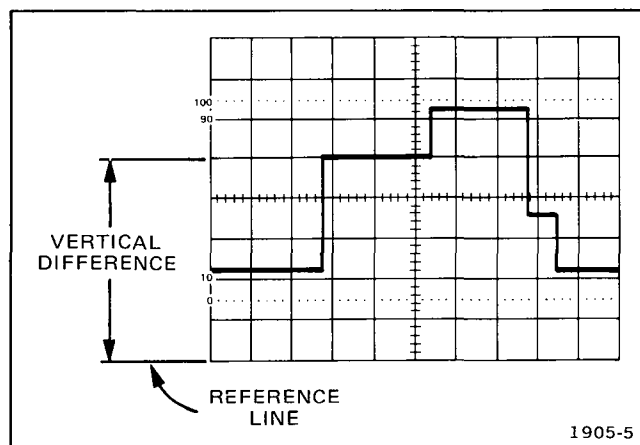

Fig. 2-10. Instantaneous voltage measurement.
4. Set the AC-GND-DC switch to GND. Adjust the trace to some reference line (see Fig. 2-10).
The vertical difference is 5 divisions (see Fig. 2-10). The VOLTS/DIV switch is set to 10 mV. The waveform appears above the reference line.